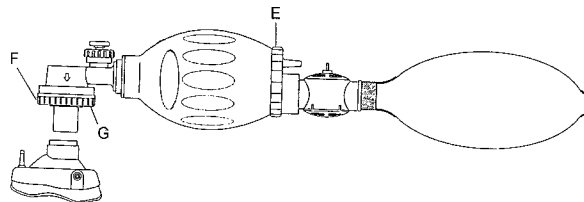

Figure 2. Inspiration
**Gas** is delivered to the patient by squeezing the silicone bag (see figure 2). Positive pressure within the bag caused by its compression closes the intake valve (E) located at the base of the bag. This causes the 2 duckbill valve (F) to close off the expiration ports (G) of the non-rebreathing assembly. Further compression of the bag forces gas through the duckbill valve to the patient. If supplemental gas is used, oxygen is delivered to the reservoir (D) during compression of the silicone bag.